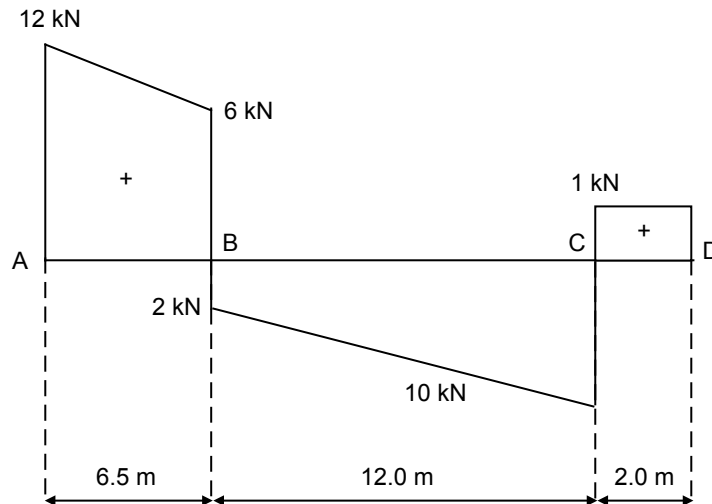

Figure 5
- Q.6 (a) Figure 5 is the SF diagram for a loaded beam that rests on two supports (at *A* and *C*). Deduce directly the BM diagram from the beam giving values at 1.5 m intervals along the length of the beam.